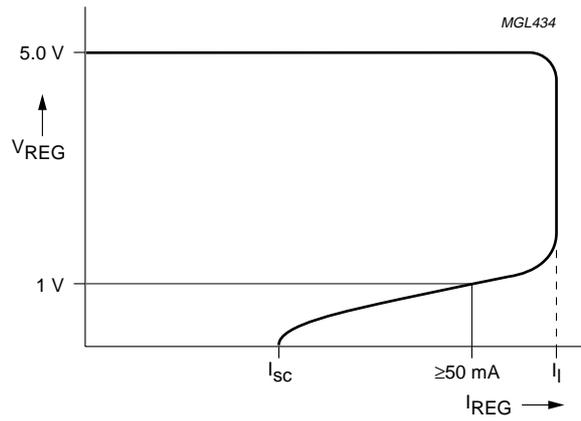

Fig.5 Foldback current protection.
- At current limit,  $I_l$  is held constant (behaviour according to dashed line in Fig.5).
- The foldback current protection limits the dissipated power at short-circuit (see Fig.5).